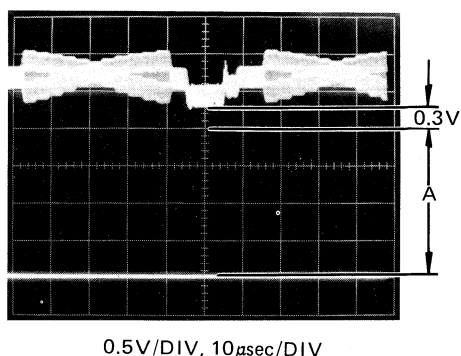

Fig. 4-2-34
- Note the DC level of the H.BL portion as (A).
- Adjust V.EDGE BIAS VR16 so that the H.BL DC level becomes (A) +0.3V. (Fig.4-2-34)